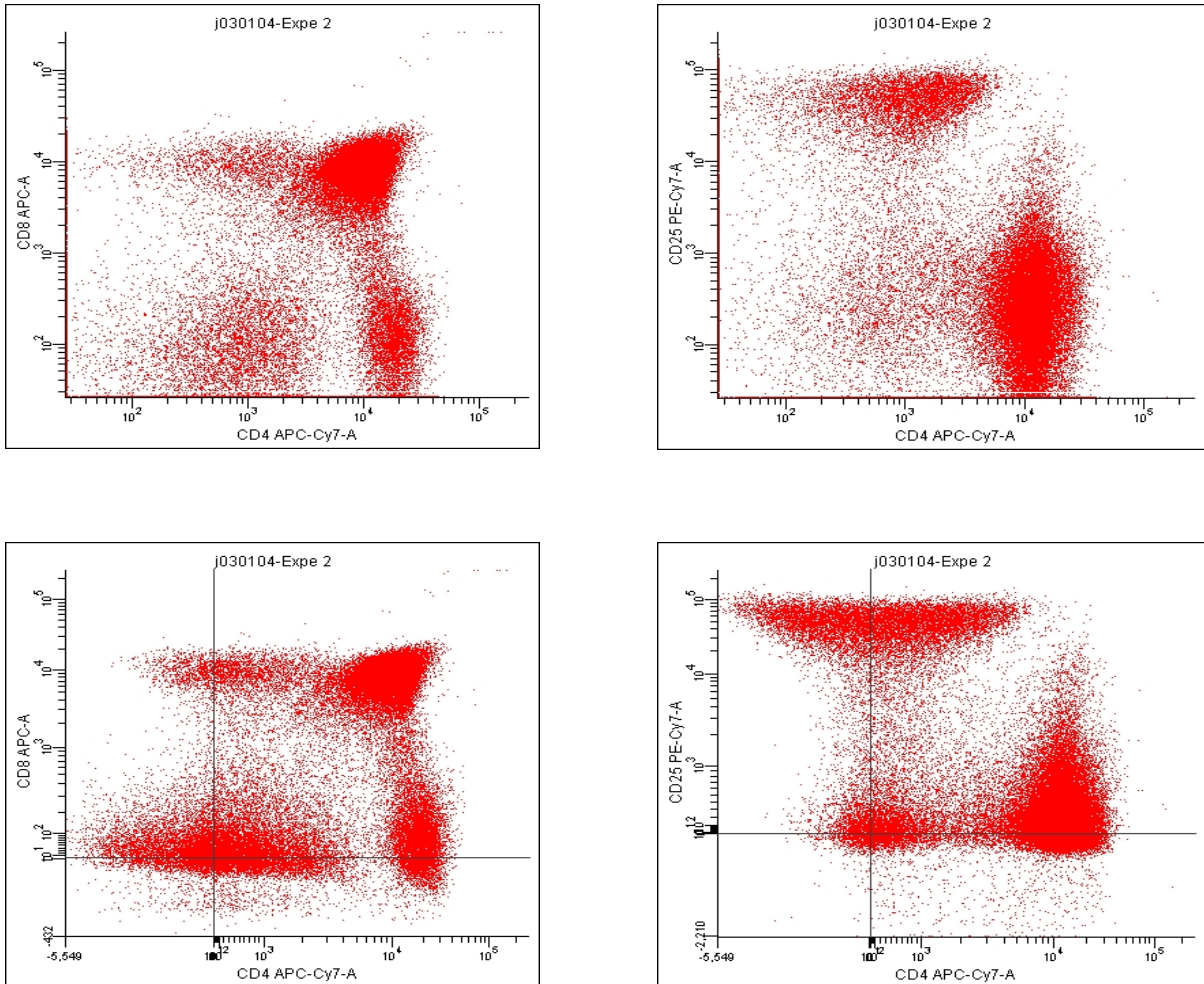

Figure 11
- Two examples of compensated data on both the traditional logarithmic scale (top) and the biexponential scale (bottom) are shown in **Figure 11**.